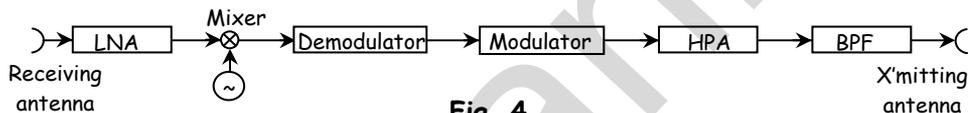

Fig. 4
- Above Fig. 4 shows a block diagram for regenerative transponder.